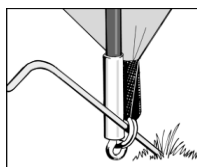

Figure 2
8. Peg down all rings of ring and pin system using pin-pegs. (see figure 2)